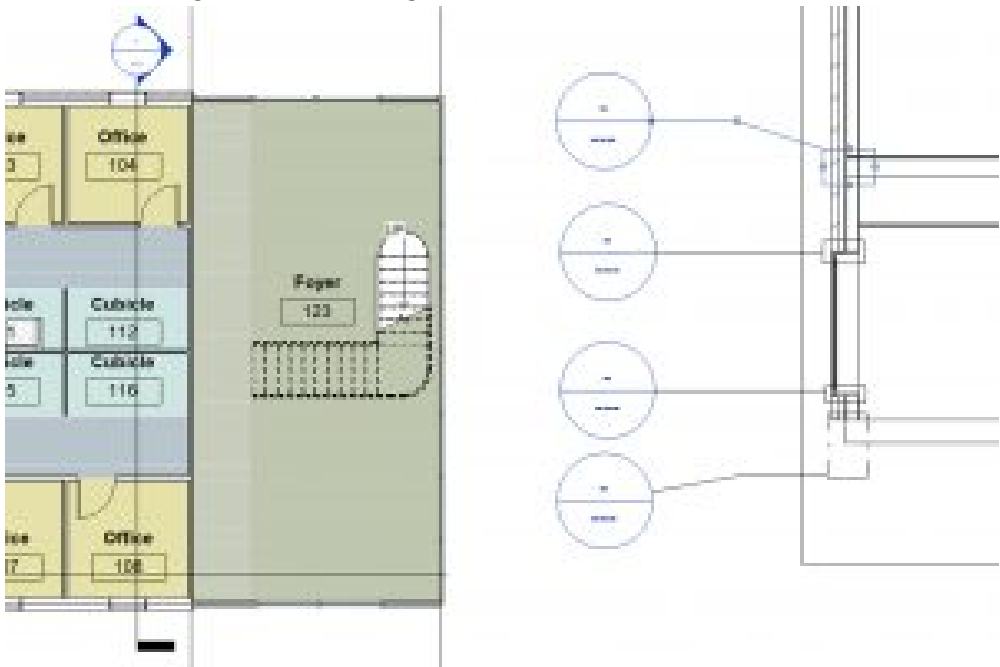

Figure 10.1 Section cut placed in Level 1 view (left) and Callouts placed in Section view (right)
3. Place a section cut across Office 104 and 108 as shown in Figure 10.1 (left)
6. Click and drag to place 4 callout bubbles as shown in Figure 10.1 (right). If the callout tag is placed over the building section, click the blue dot closest to the bubble and drag it off the building.